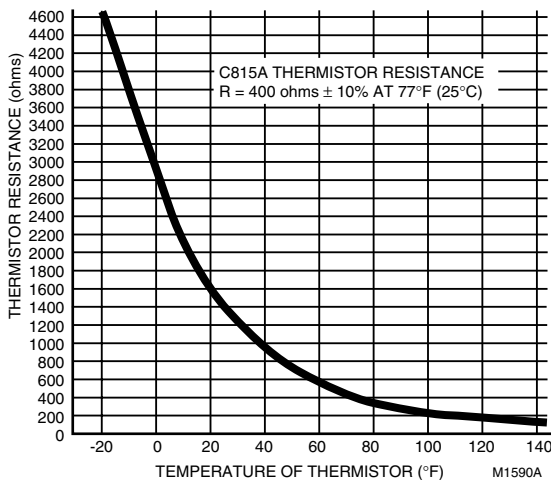

Fig. 14. Thermistor resistance chart.
3. Take outdoor temperature at thermistor location and find the correct thermistor resistance on the Fig. 14 chart.